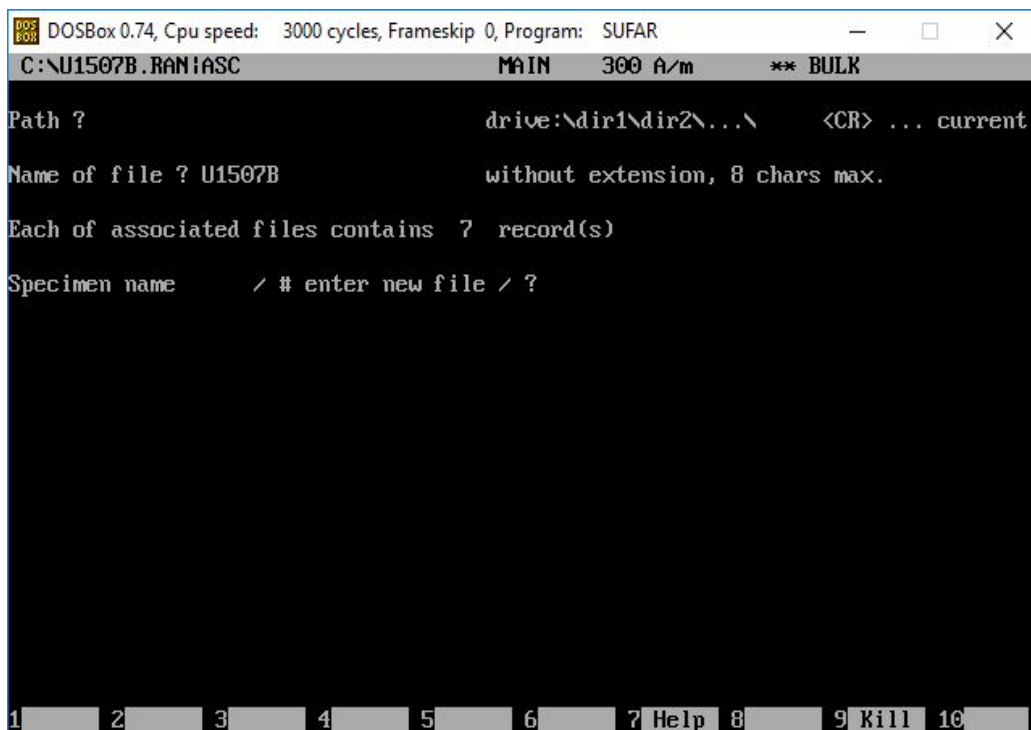

Figure 19. Sufar window prompting user to enter a specimen name or to use the # sign to indicate they wish to put the data in a new file.
- a. If this is a file with existing measurements, the window will display the number of measurements already in the file, and ask for the new specimen name (**Figure 19**).